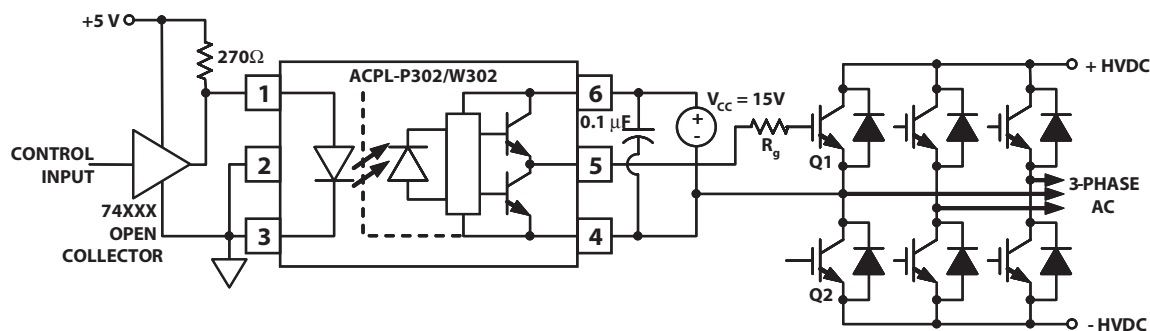
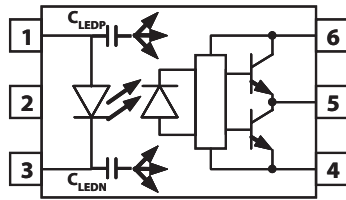
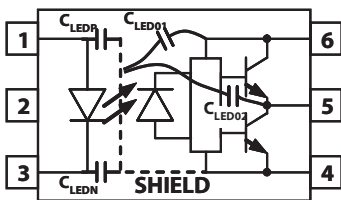
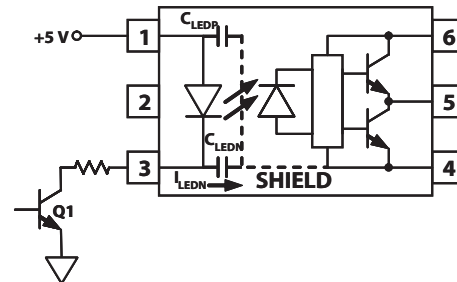

Figure 17. Recommended LED Drive and Application Circuit for ACPL-P302/W302
Figure 19. Optocoupler Input to Output Capacitance Model for Unshielded Optocouplers.
Figure 20. Optocoupler Input to Output Capacitance Model for Shielded Optocouplers.
Figure 22. Not Recommended Open Collector Drive Circuit.
To keep the IGBT firmly off, the ACPL-P302/W302 has a very low maximum V_{OL} specification of 1.0 V. Minimizing R_g and the lead inductance from the ACPL-P302/W302 to the IGBT gate and emitter (possibly by mounting the ACPL-P302/W302 on a small PC board directly above the IGBT) can eliminate the need for negative IGBT gate drive in many applications as shown in Figure 17. Care should be taken with such a PC board design to avoid routing the IGBT collector or emitter traces close to the ACPL-P302/W302 input as this can result in unwanted coupling of transient signals into the input of ACPL-P302/W302 and degrade performance. (If the IGBT drain must be routed near the ACPL-P302/W302 input, then the LED should be reverse biased when in the off state, to prevent the transient signals coupled from the IGBT drain from turning on the ACPL-P302/W302.
Step 1: Calculate R_g minimum from the I_{OL} peak specification. The IGBT and R_g in Figure 17 can be analyzed as a simple RC circuit with a voltage supplied by the ACPL-P302/W302.
where $K_{ICC} \cdot Q_g \cdot f$ is the increase in I_{CC} due to switching and K_{ICC} is a constant of 0.001 mA/(nC*kHz). For the circuit in Figure 17 with I_F (worst case) = 10 mA, $R_g = 57.5 \Omega$, Max Duty Cycle = 80%, $Q_g = 100$ nC, $f = 20$ kHz and $T_{AMAX} = 85^\circ\text{C}$:
Without a detector shield, the dominant cause of optocoupler CMR failure is capacitive coupling from the input side of the optocoupler, through the package, to the detector IC as shown in Figure 19. The ACPL-P302/W302 improves CMR performance by using a detector IC with an optically transparent Faraday shield, which diverts the capacitively coupled current away from the sensitive IC circuitry. However, this shield does not eliminate the capacitive coupling between the LED and optocoupler pins 5-8 as shown in Figure 20. This capacitive coupling causes perturbations in the LED current during common mode transients and becomes the major source of CMR failures for a shielded optocoupler. The main design objective of a high CMR LED drive circuit becomes keeping the LED in the proper state (on or off) during common mode transients. For example, the recommended application circuit (Figure 17), can achieve 10 kV/ μ s CMR while minimizing component complexity.
The open collector drive circuit, shown in Figure 22, can not keep the LED off during a $+dV_{CM}/dt$ transient, since all the current flowing through C_{LEDn} must be supplied by the LED, and it is not recommended for applications requiring ultra high CMR_L performance. The alternative drive circuit which like the recommended application circuit (Figure 17), does achieve ultra high CMR performance by shunting the LED in the off state.